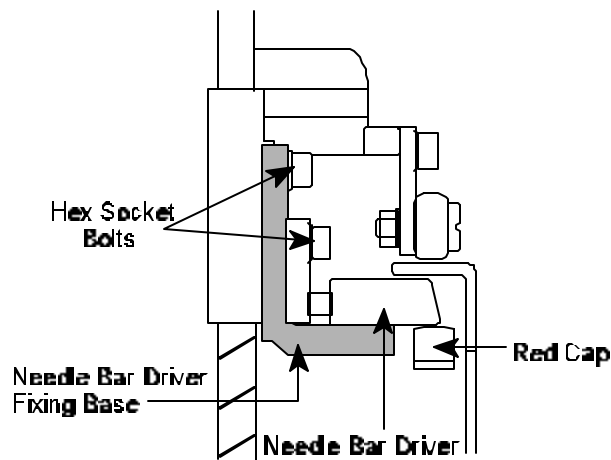

Figure 4
10. **Using** a 3 mm Allen Wrench, **remove** 2 hex socket bolts securing the Needle Bar Driver Fixing Base. See *Figure 4*.